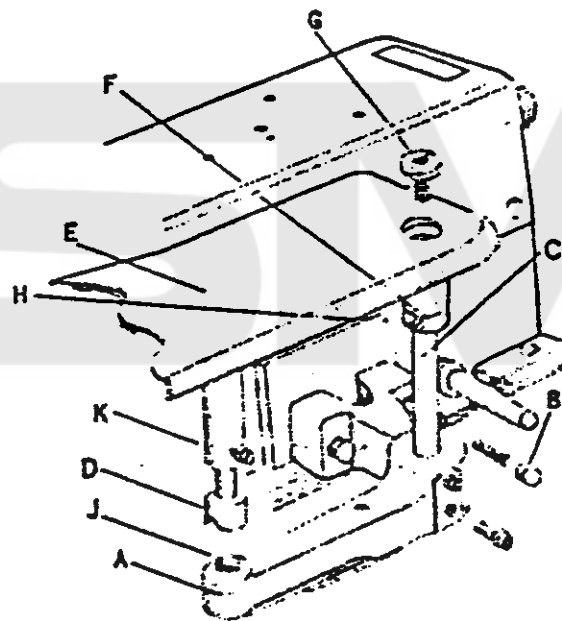

Fig. 3
3. Setting-up Work Plate (Fig. 3)